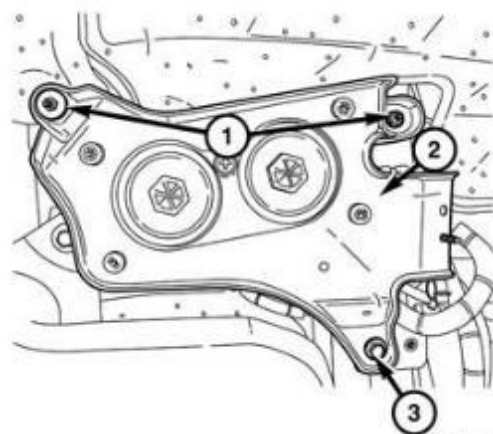

Figure 69 - Fuel Filter/Water Separator
96. Remove the nuts (1), bolt (3), and the fuel filter/water separator assembly (2) (Figure 69).
107. Install the fuel filter/water separator assembly (2) to the vehicle. Tighten the two nuts (1), and one bolt (3) to 20 N·m (15 ft. lbs.) (Figure 69).